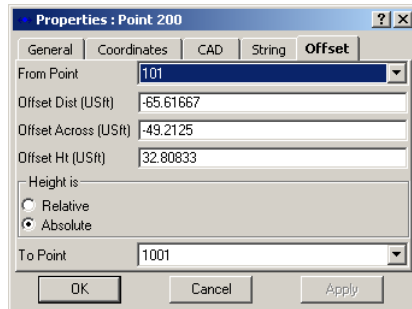

Figure 4-62. Point Properties – Offset Tab
2. On the **Properties** dialog box, click the *Offset* tab (Figure 4-62 on page 4-47).